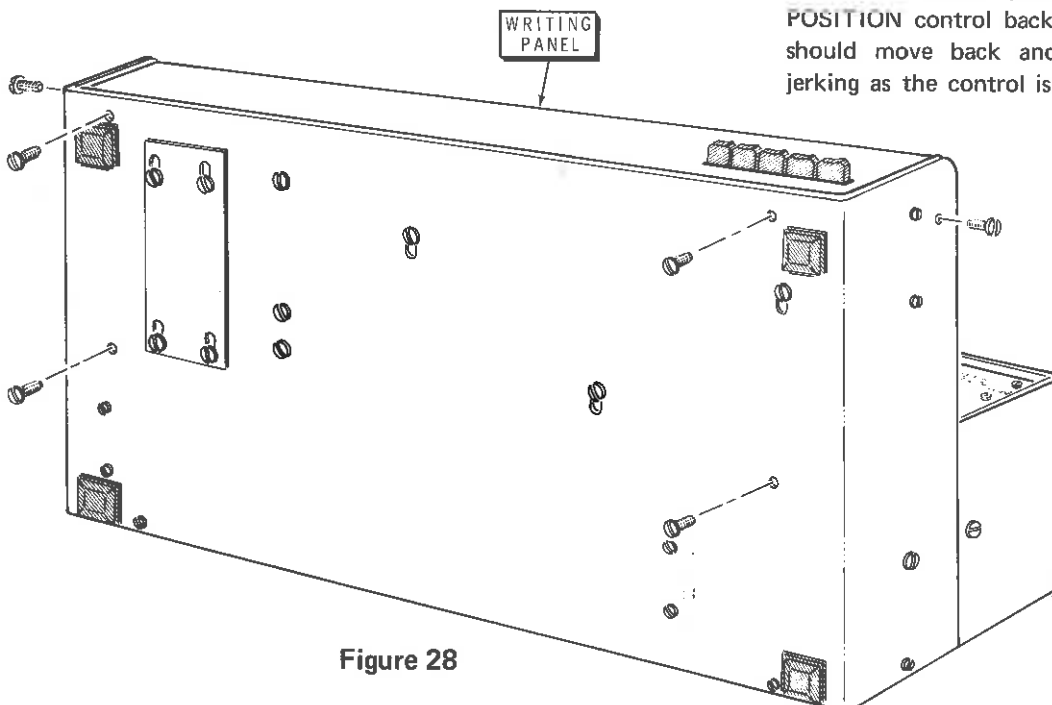

Figure 28
2. Depress the five CHART SPEED buttons. The 5, 10, and 20 (OR) buttons must be pressed and released simultaneously.
3. Refer to Figure 28 and remove the six screws that hold the writing panel.